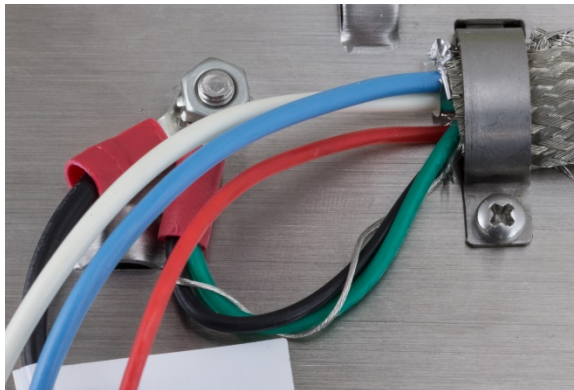

Figure 2-64: Ground Wiring
10. On the rear cover of the panel-mount enclosure, connect the short black wire (provided) and the twisted black and green wires from the POWERCELL cable to the external ground stud with a hex nut as shown in Figure 2-64.